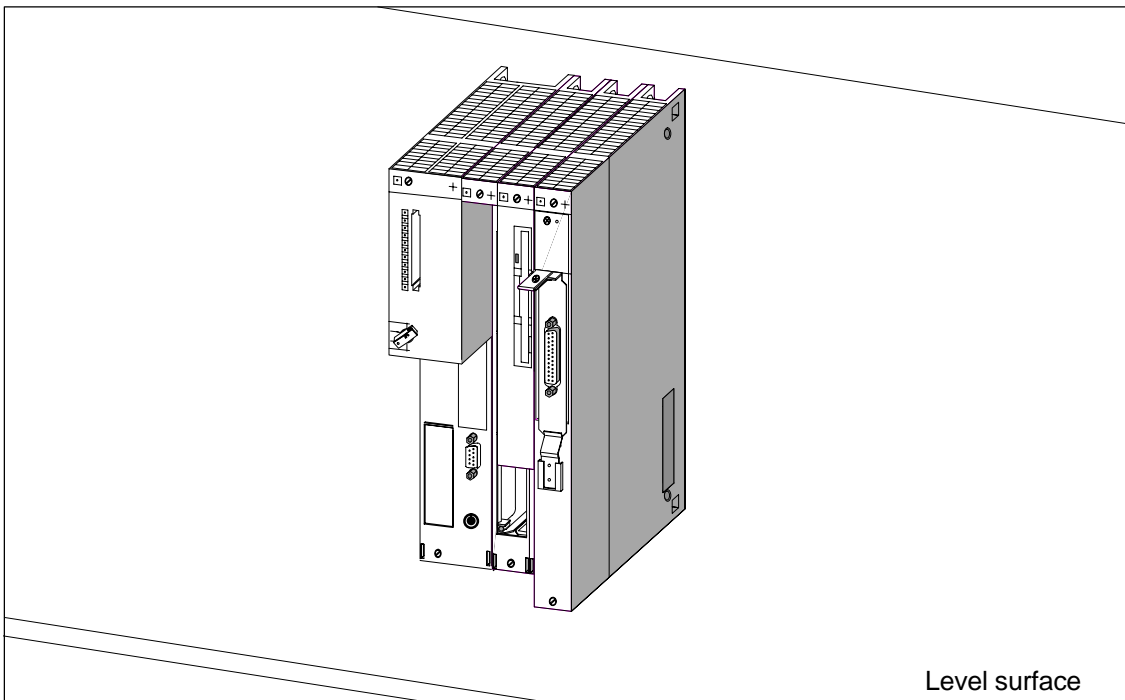

Figure 8-25 Module Assembly Comprising CPU and Expansion Modules
9. Place the module assembly on a level surface (Figure 8-25).